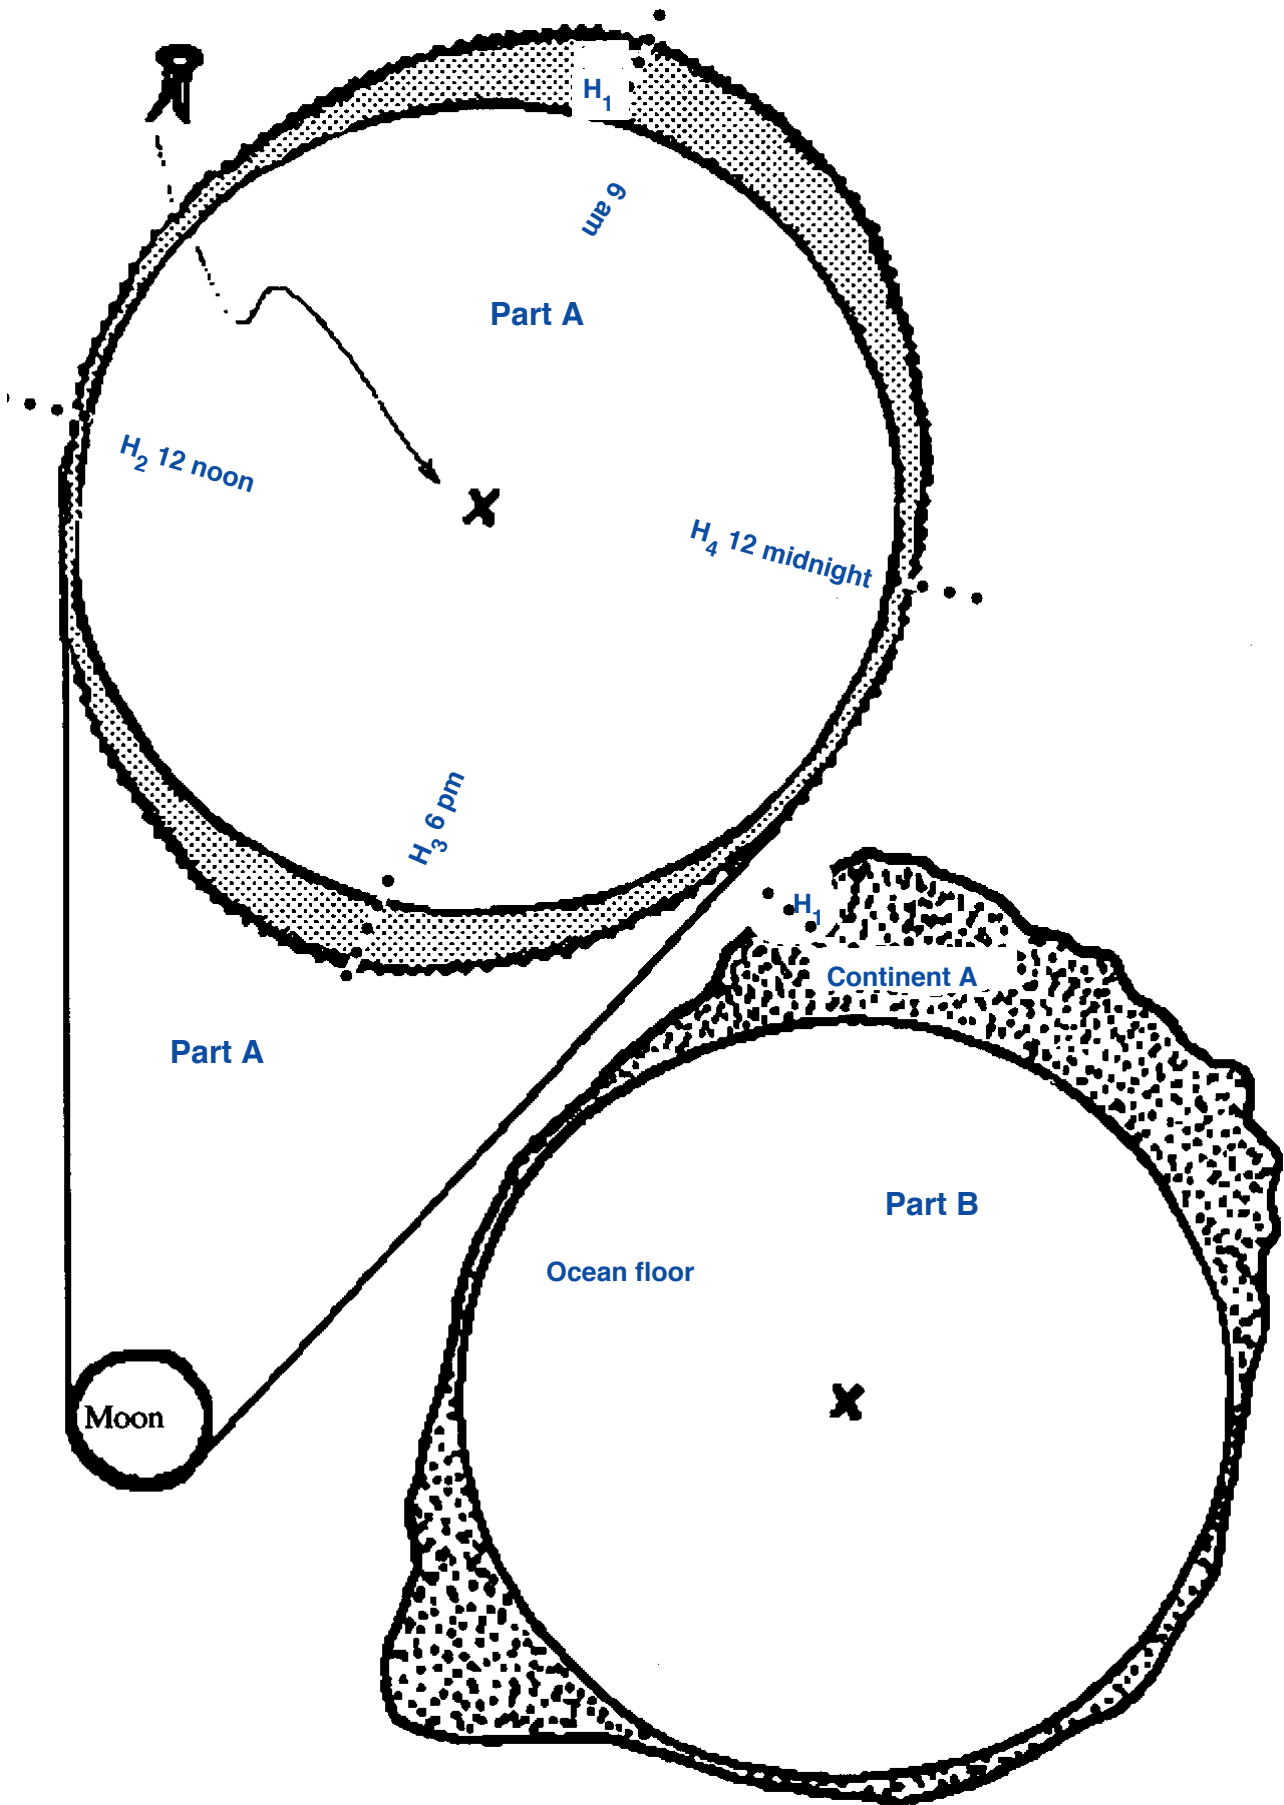

Figure 76.2 Template for model. Students may make one copy of this page so that they can make their model.
1. Find the water in Part A of Figure 76.2 and colour it in blue.
2. Use scissors to cut out Part A as shown in Figure 76.2